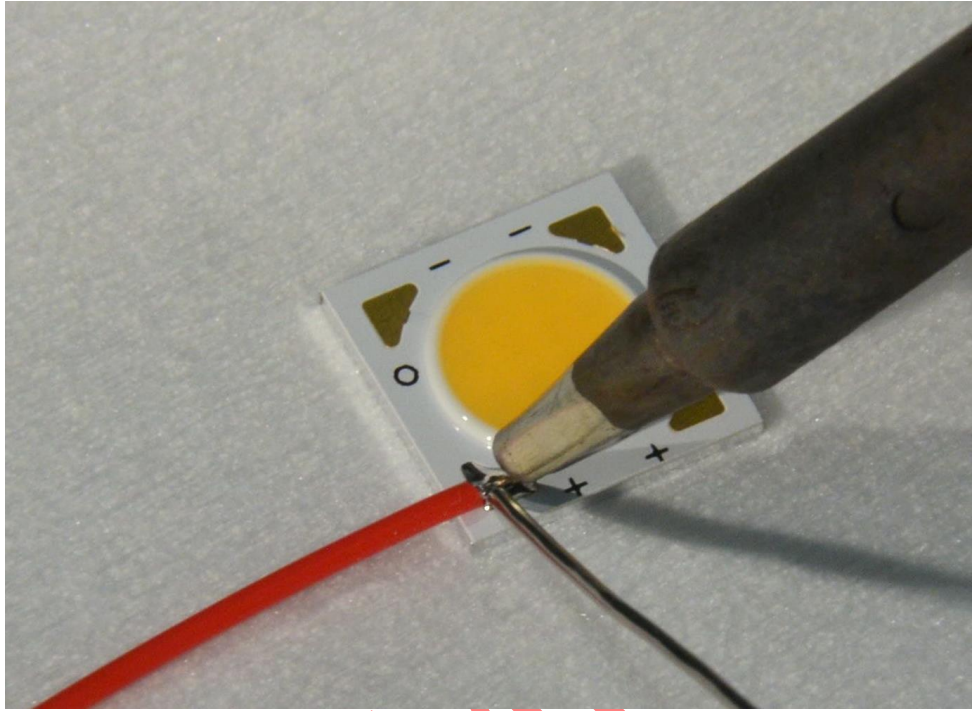

Figure 6: Soldering a pre-tinned wire to a pre-tinned solder pad
- C. Place the hot tip of the soldering iron on top of the tinned wire end. Bring the solder wire to the area just below the solder tip (see Figure 6). Only a small amount of solder is necessary to form a joint. After the solder melts and while holding the wire in place, quickly remove the soldering iron to prevent the formation of icicles. Signs of an overheated solder joint include solder spike formations and burnt flux residue. If these signs are observed, consider reducing the solder time or the soldering iron temperature. The process of soldering wires to